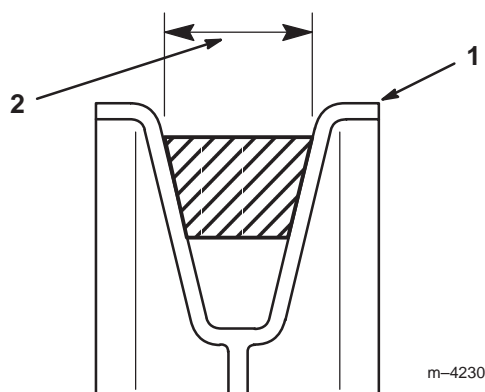

Figure 19
10. Make certain that the wide side of the PTO drive belt is toward the outside diameter of **all (six) pulleys (Fig. 19).**